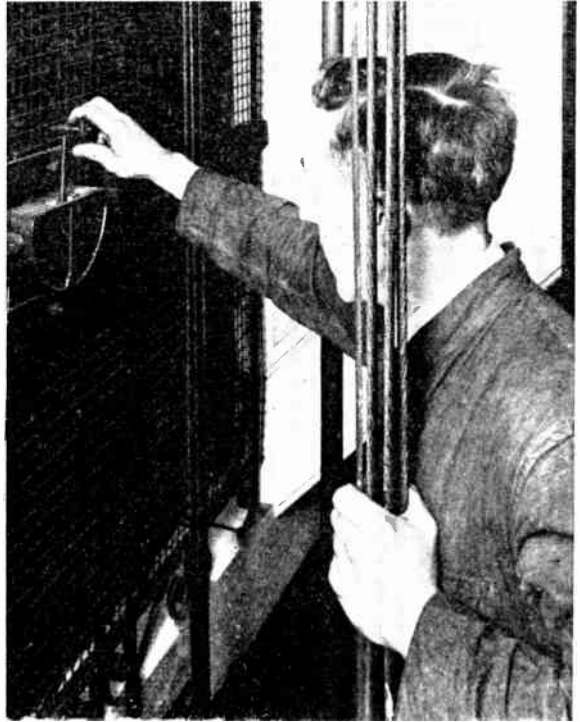

Fig. 8.—HOW TO SAVE YOURSELF IF YOUR MATE FAILS TO STOP THE LIFT WHEN YOU ARE TRAVELLING ON TOP OF IT IN THE "UP" DIRECTION (2).
2. You may operate the control limit at the top of the shaft with your hand. (Fig. 8.)